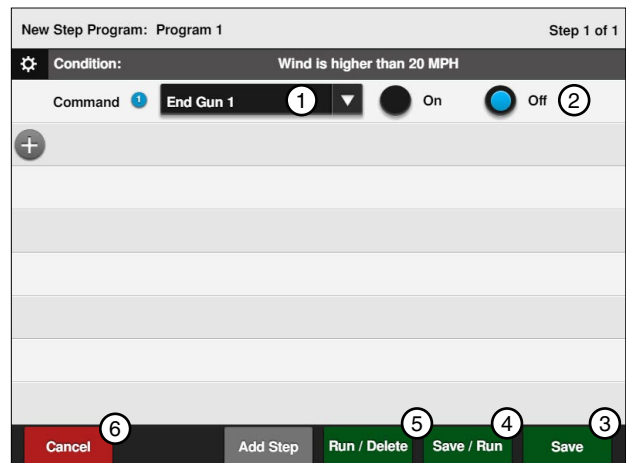

Figure 117-2 1. End Gun 1 Command
4. Enter the command to be executed when wind speed is higher than 20 mph. Refer to Figure 117-2.
5. Finish the program by selecting one of the following. Refer to Figure 117-2.